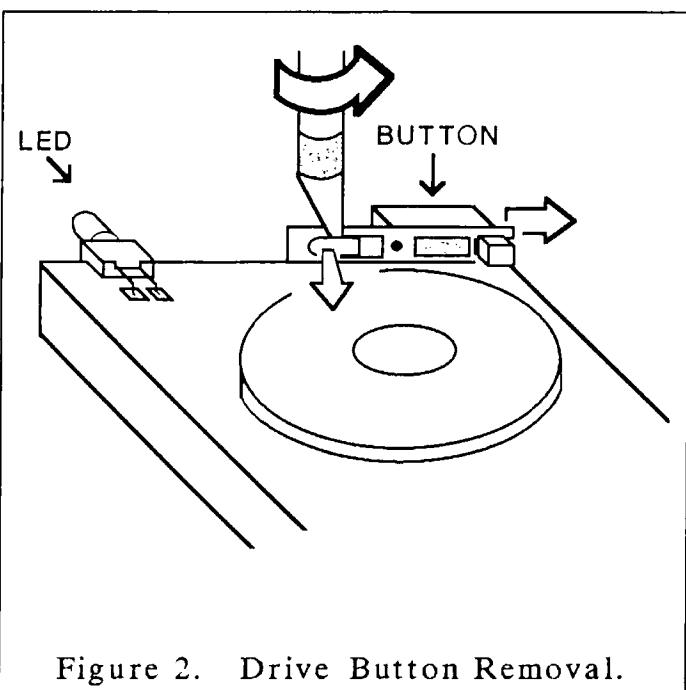

Figure 2. Drive Button Removal.
5) Orient the high-density floppy drive mechanism as shown in Figure 2, upside-down with the eject button facing away from you. Insert a thin knife blade between the eject button's mounting tongue and the button mounting plate. Carefully rotate the knife blade counterclockwise, just enough to lift the bump on the tongue out of the matching hole in the plate. Slide the button to the right and remove it. Repeat the procedure to remove the low-density drive's eject button.